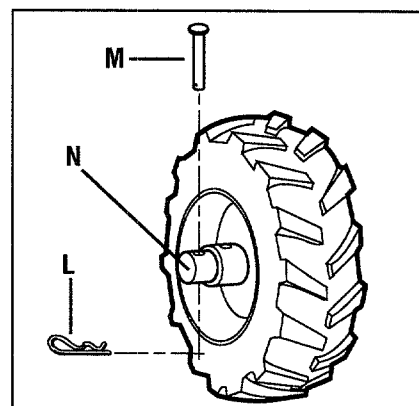

Fig. 2-3: Wheel in FREEWHEEL position (wheel drive pin through wheel shaft only).
2. Remove the hairpin cotter (L, Fig. 2-3) and wheel drive pin (M). Slide the wheel inward on the wheel shaft (N). Reinstall the wheel drive pin through the wheel shaft only (not through the wheel hub) and secure it with the hairpin cotter (push hairpin cotter in as far as it will go). Repeat with the other wheel.